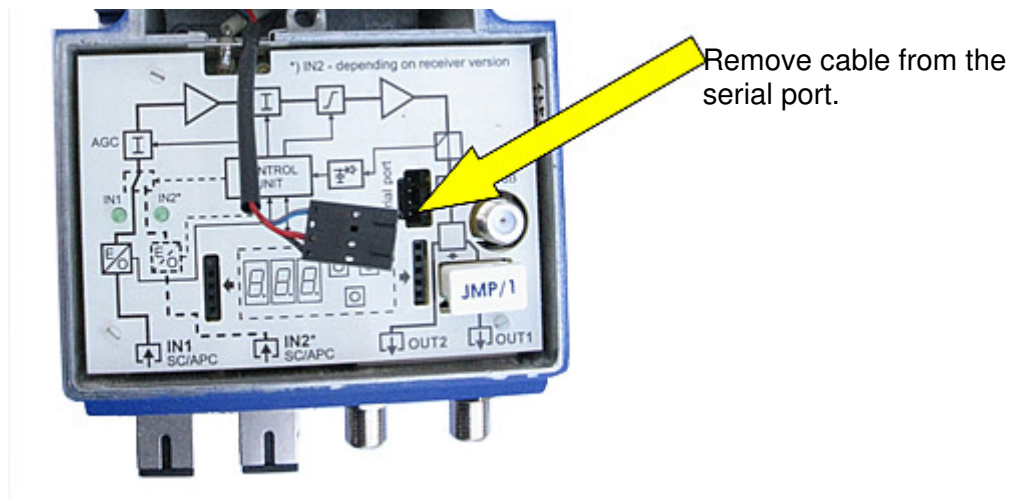

Fig. 8.11. Replacing a fuse in the MOB-729 - step 2.
- remove the M-729 remote monitoring module communication cable from the serial port - see fig. 8.11 (applicable to MOB-729 version with a remote monitoring module),
- Fig. 8.11. Replacing a fuse in the MOB-729 - step 2.